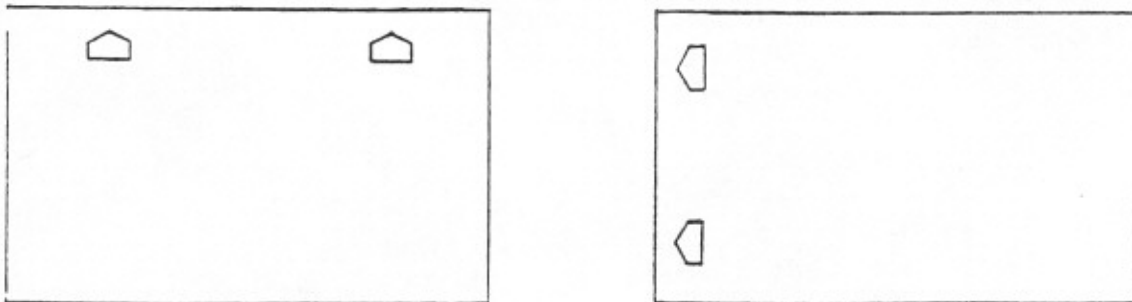

FIGURE 1
1. Because of their unique radiation characteristics, the separation of the speakers is not highly critical in rooms of normal size. In fact, these speakers may be placed further apart than is possible with most other speaker systems and they will still yield excellent stereo without the common "hole in the middle". Therefore, in most rooms you are free to use either a short or a long wall for the placement of your speakers as indicated in Figure 1. You may experiment with the distance between the speakers to suit your taste but if possible the separation should be at least six feet.
2. Note in Figure 1 that the front of the speaker is the flat surface and the rear is the "vee" surface with the angled panels. This orientation of the speaker is important to obtain the proper distribution and reflection of sound radiated from the speaker. So, point the "vee" toward the wall.